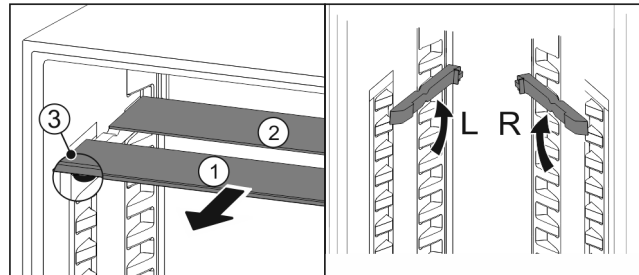

Fig. 79
- ▶ Pull the glass panels out Fig. 79 (1) from the front, one at a time.
- ▷ The glass panel Fig. 79 (1) with the trim strip is at the front.
- ▷ The stops Fig. 79 (3) point downward.